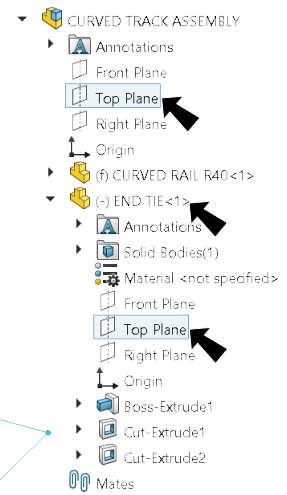

Fig. 6
Step 2. Expand the flyout Feature Manager design, expand **End Tie** and click **Top Plane** , **Fig. 6**.